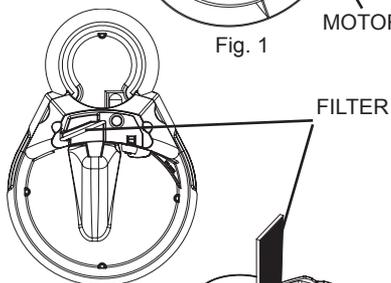

Fig. 2A
2. Remove the housing cover (lid) and insert the filter cartridge down into the well in the housing. It fits in the well diagonally (Figs. 2A and 2B). The bottom of the filter is narrower than the top and the black side faces outward (toward the spout). If the fit is too tight, it is either in upside down or in the wrong groove at the front (move it back one groove). RINSING the filter before use will help remove any loose bits of charcoal, which are harmless.